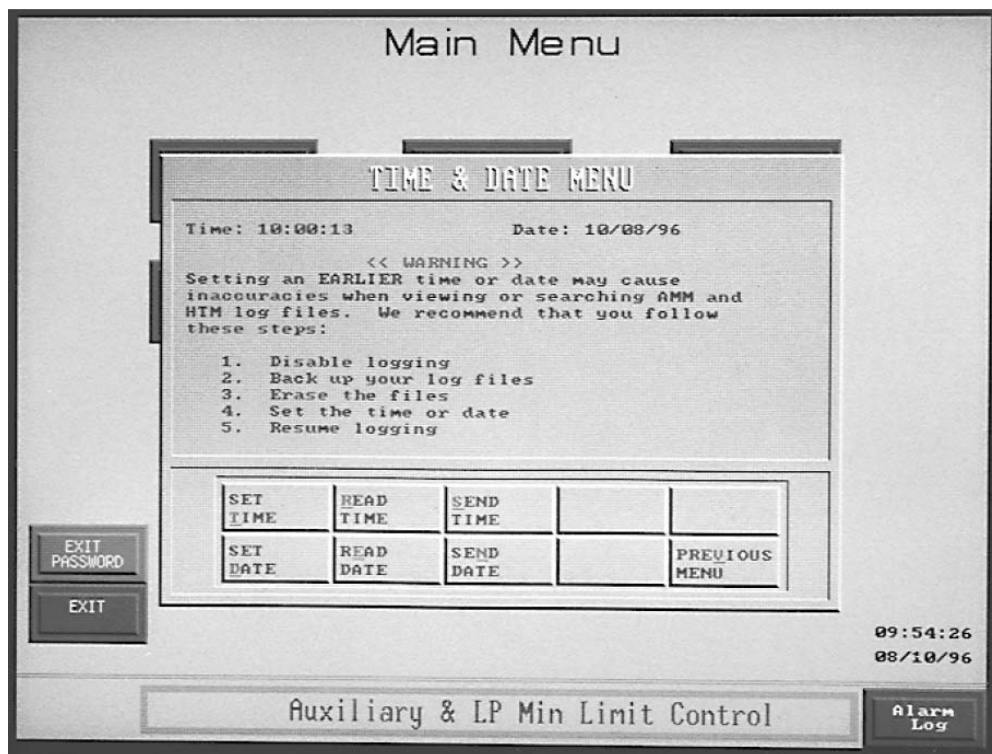

Figure 3-10. Time and Date Menu
10. Press Previous Menu button (see Figure 3-10).